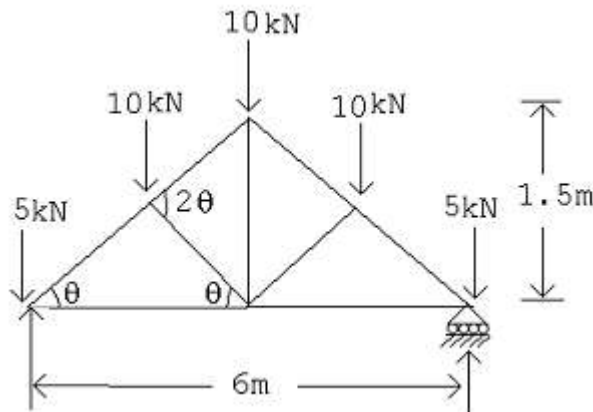

Figure: 1
2. Design one tension member and one compression member carrying minimum forces of the roof truss loaded as shown in Figure 1. [24]